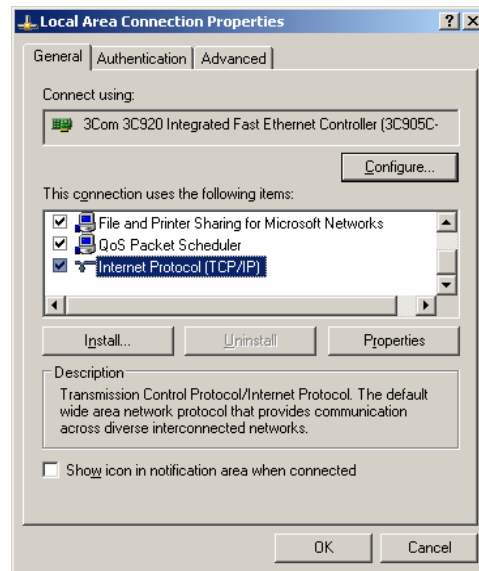

Figure B-6: Local Area Connection Properties Screen
3. Double click on the Local Area Connection. The Local Area Connection Properties setup screen displays (Figure B-6).